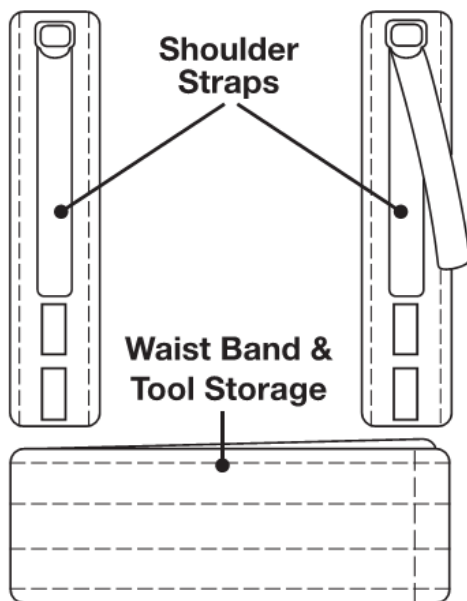

Fig 16
5. To blow up inflatable items, select the appropriate size blower attachment that will fit into the air valve (Fig.16).
3. Correctly place shoulder straps on each shoulder and secure the waist band with hook and loop strips (Fig.16).